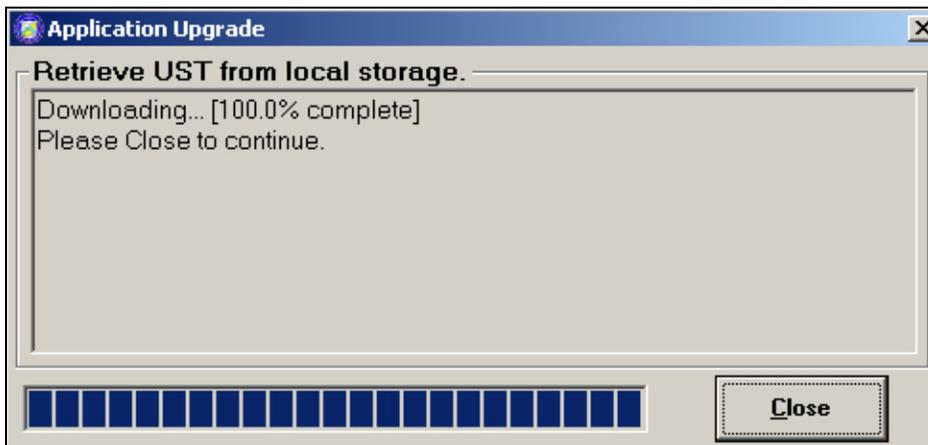

Figure 6.10.5
3. Click **'Yes'** to install the upgrade now, or **'No'** to postpone the install. Installation of the upgrade can be postponed but it is not recommended as the upgrade is assigned a specific grace period and must be installed within that period of time. The Retrieve Upgrade window opens (Figure 6.10.5).